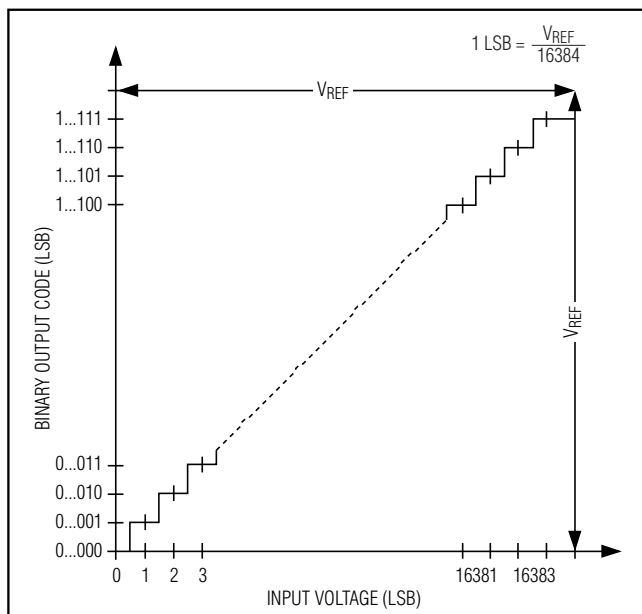
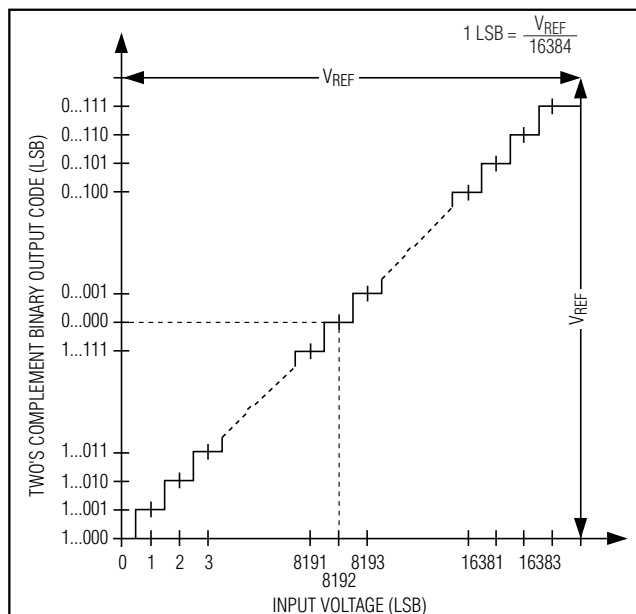

Figure 14. Unipolar Transfer Function
Figure 15. Bipolar Transfer Function
In unipolar input mode, the digital output is straight binary (Figure 14). For bipolar input mode, the digital output is two's complement binary (Figure 15). Data is clocked out on the falling edge of SCLK in MSB-first format.
Output data coding for the MAX1146-MAX1149 is binary in unipolar mode and two's complement binary in bipolar mode with $1\text{ LSB} = (V_{\text{REF}}/2^N)$, where N is the number of bits (14). Code transitions occur halfway between successive-integer LSB values. Figure 14 and Figure 15 show the input/output (I/O) transfer functions for unipolar and bipolar operations, respectively.